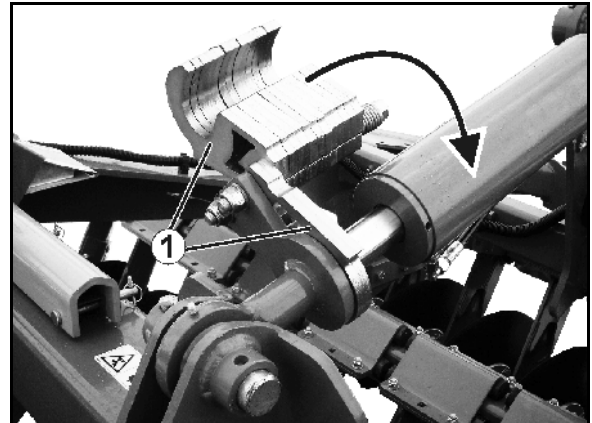

Fig. 36
Mechanical adjustment of working depth by changing the number of spacer elements (Fig. 36/1) on the piston rod.
Hydraulic adjustment of working depth using the scale (Fig. 36/1).
- Set indicator (Fig. 36/2) toward 0.
- Set indicator (Fig. 36/2) toward 12.